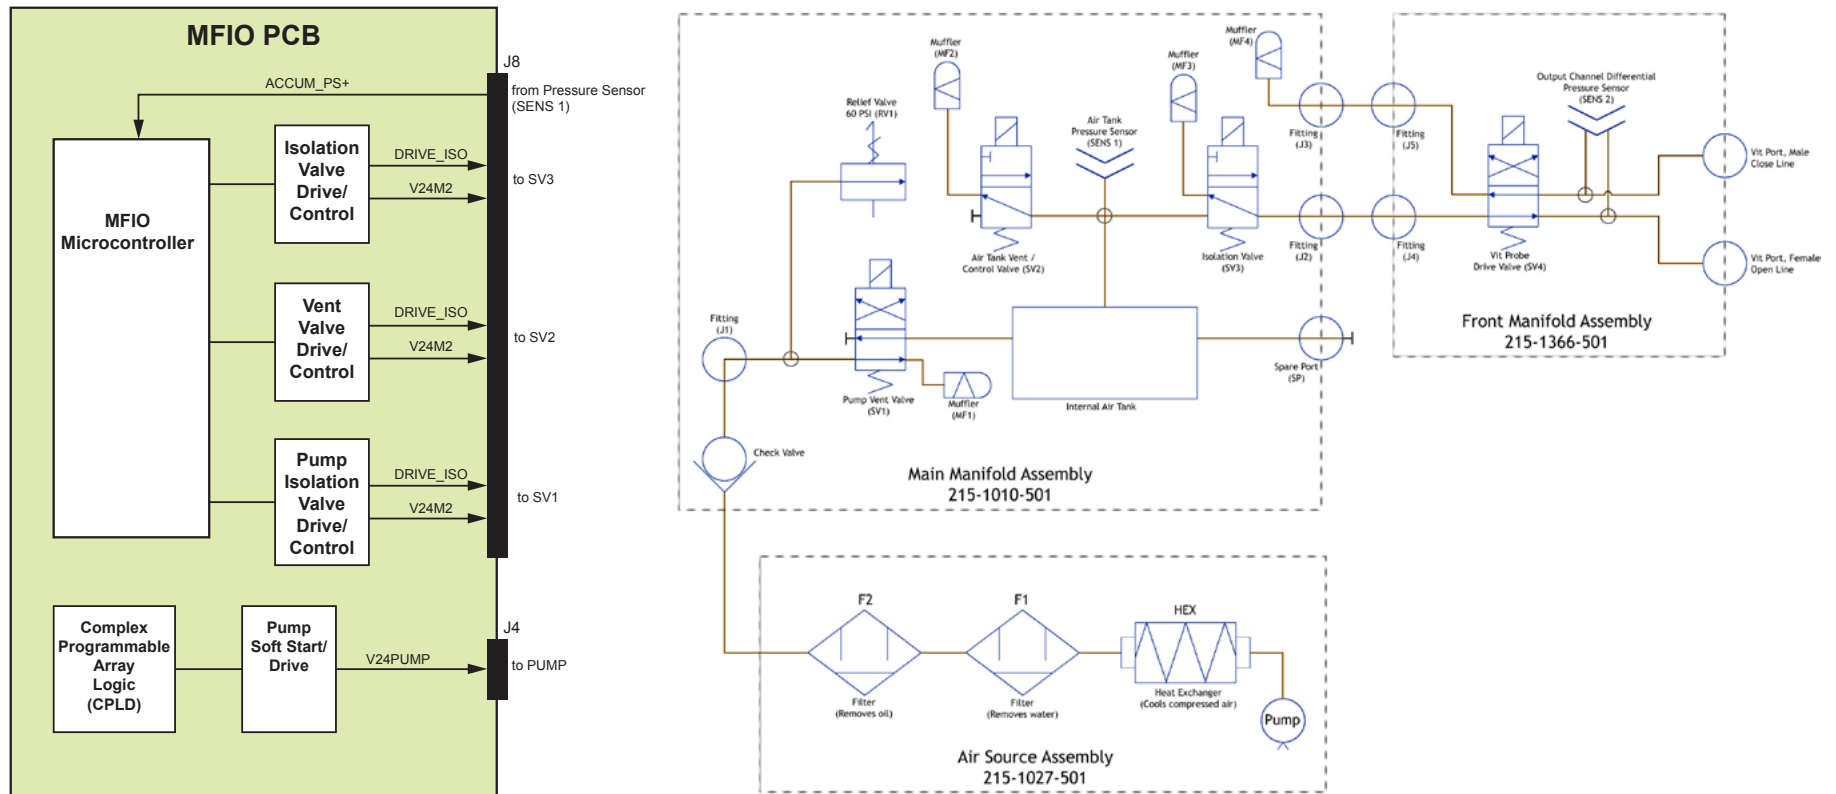

Figure 2-12 Pneumatic Block Diagram
8. PNEUMATICS (see *Figure 2-12*)
- 13.13 **PROCESSOR PCB** - The Footswitch Processor PCB accepts either 24 V from the console cable or 6-8 V from the footswitch battery, and uses high efficiency DC/DC converters to produce supply voltages as needed to supply circuit blocks shown in Figure 2-12.